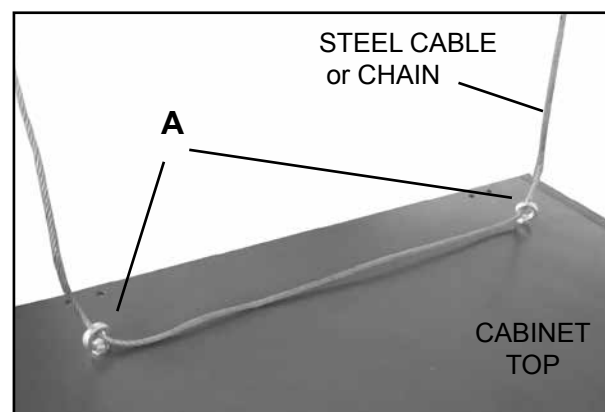

FIG. 3
1. The air filtration unit can be hung from the ceiling. Hang the unit using the four eyebolts supplied with the System. The top of the cabinet has 4 pre-installed threaded nuts into which the eyebolts are screwed into (FIG. 3, A). Use extra heavy steel cable (as shown) or chain to suspend the unit to the ceiling joists.